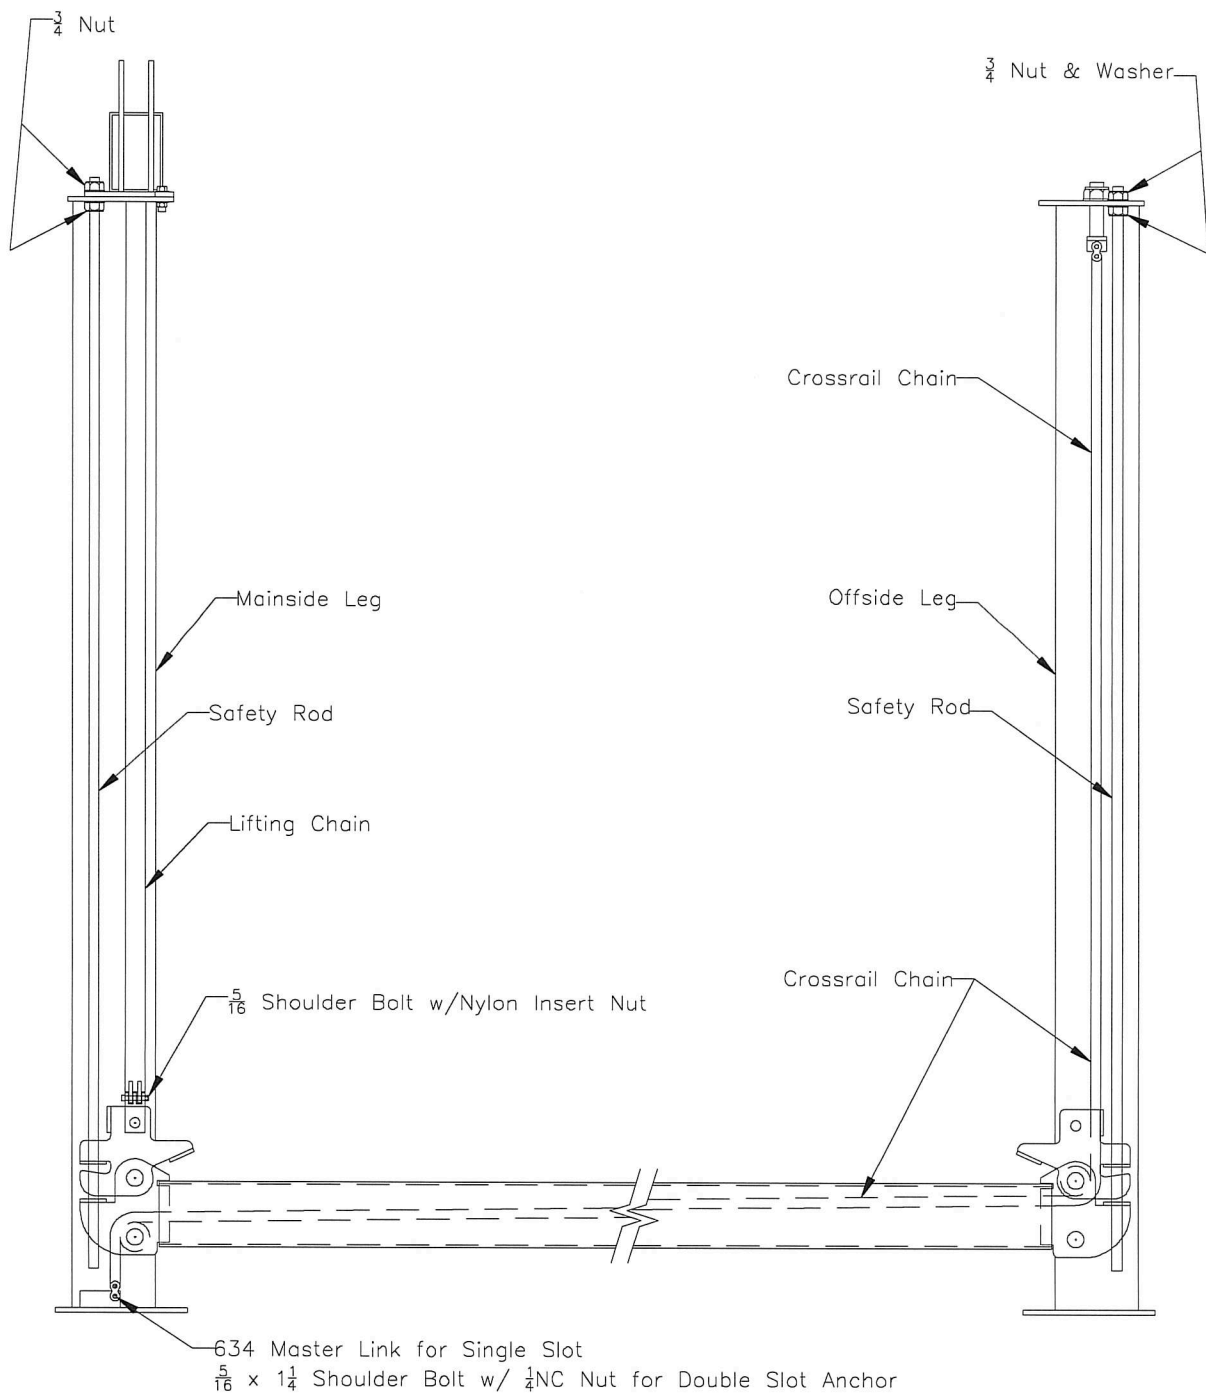

Figure 6. 12000 lb Lift, Crossrail Chain Arrangement
| Figure 6, Crossrail Chain Arrangement.....       | Page 11 |
12. Use the pull wire to pull the cross rail chain thru the cross rail tube. The chain runs over the roller at the mainside leg and under the roller at the offside leg. See Figure 6. Repeat for the other end.